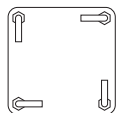

Figure 2
2. Assemble anchor system as follows: Thread nut (#35) to bottom of threads on anchor bolt (#39) insert threads of anchor bolt (#39) through hole on anchor plate (#38) and secure with nut (#35). Repeat this step for the remaining anchor bolts. See Figure 2. Note: Each leg of anchor bolts should face the anchor bolt to the right. See Detail A.